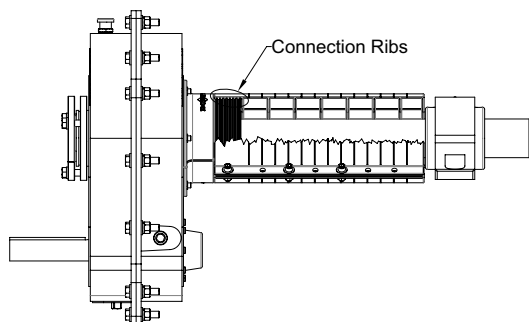

Figure 2 - Extension Connection to Cover
4. With the extensions cut to length, use the ribs located on the inside of the extensions to clamp around the ribs on the outside of the adapter, as seen in the cutaway (Figure 2).